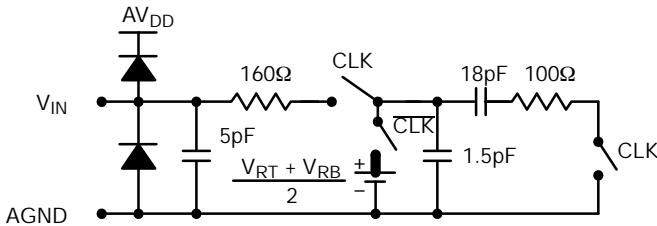

Figure 8. Equivalent Input Circuit
- 5 See V_{IN} equivalent circuit (Figure 8.). Switched capacitor analog input requires driver with low output resistance.
This part has a switched capacitor type input circuit. This means that the input impedance changes with the phase of the input clock. V_{IN} is sampled at the high to low clock transition. Figure 8. shows an equivalent input circuit.